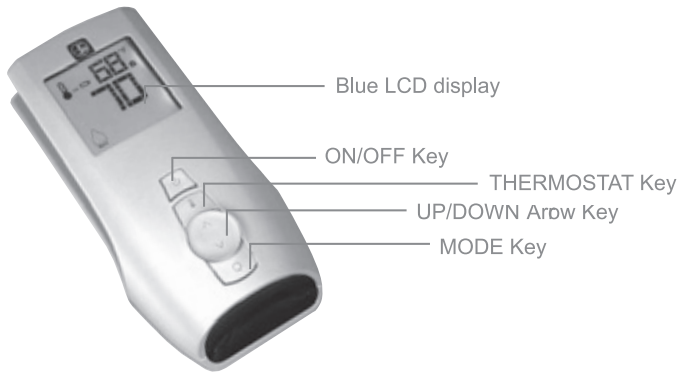
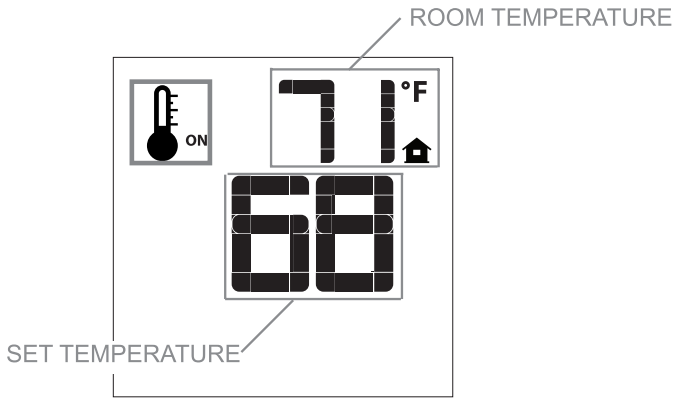
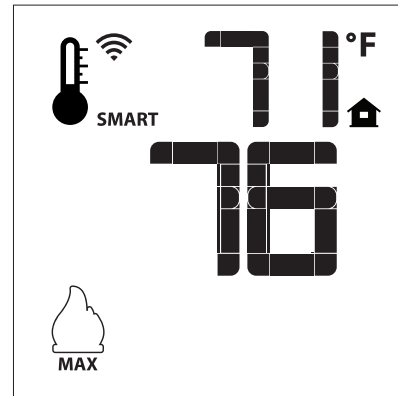
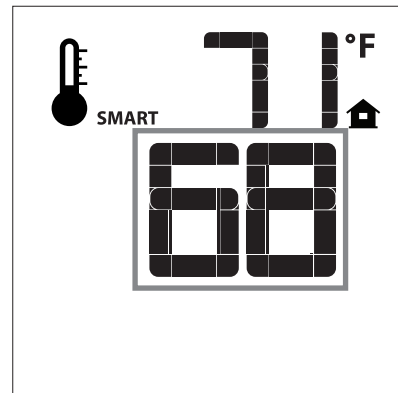

Figure 24 - Proflame Transmitter
Figure 34a
Figure 35
Figure 36
NOTE: A small toggle switch is located on a bracket that is used to switch from IP (left position) to the CPI (right position). See Figure 24.
3. The gas valve has inlet and outlet pressure taps as shown in Figure 24. Refer to pages 15 - 16 for gas pressure requirements.
The Proflame Transmitter uses a streamline design with a simple button layout and informative LCD display **See Figure 24**.
The Transmitter is powered by 3 AAA type batteries. A Mode Key is provided to Index between the features and a Thermostat Key is used to turn on/off or index through thermostat functions. **See Figures 24 and 25**.
To activate this function, press the Thermostat Key. **See Figure 24.** The LCD display on the Transmitter will change to show that the room thermostat is "ON" and the set temperature is now displayed. **See Figures 34a and 34b.** To adjust the set temperature, press the Up or Down Arrow Keys until the desired set temperature is displayed on the LCD screen of the Transmitter.
To activate this function, press the Thermostat Key (**See Figure 24**) until the word "SMART" appears to the right of the temperature bulb graphic. **See Figure 35.** To adjust the set temperature, press the Up or Down arrow Keys until the desired set point temperature is displayed on the LCD screen of the Transmitter. **See Figure 36.**